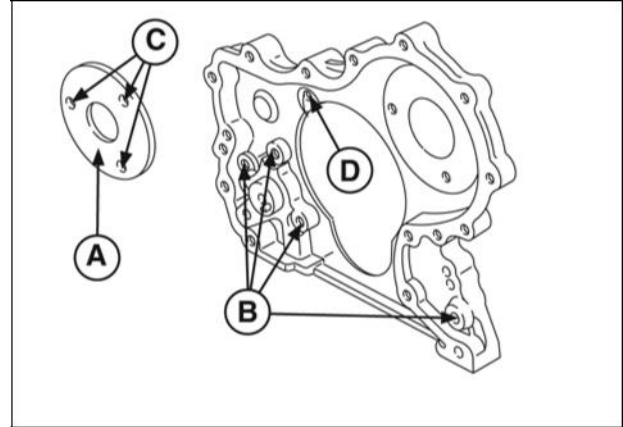
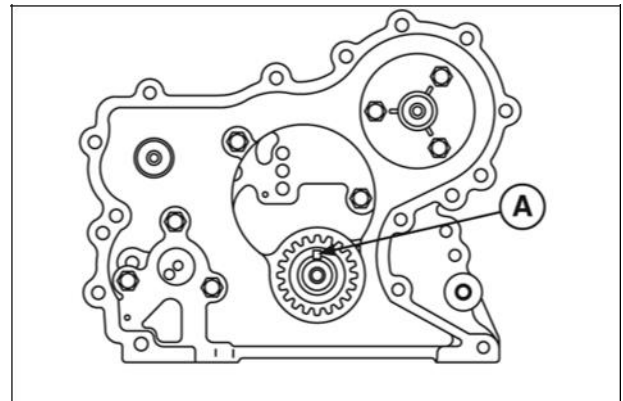

Figure 16
Figure 17
2. Install timing gear case with new gasket. Install camshaft retainer (A, Figure 16).
3. Note position, length, and number of screws (Figure 16).
- M6 x 1.1 in. (M6 x 28 mm): 4 (A)
- M6 x 0.7 in. (M6 x 18 mm): 3 (B)
- M6 x 0.6 in. (M6 x 16 mm): 1 (C)
5. Make sure crankshaft key is at the 12 o'clock position (A, Figure 17).